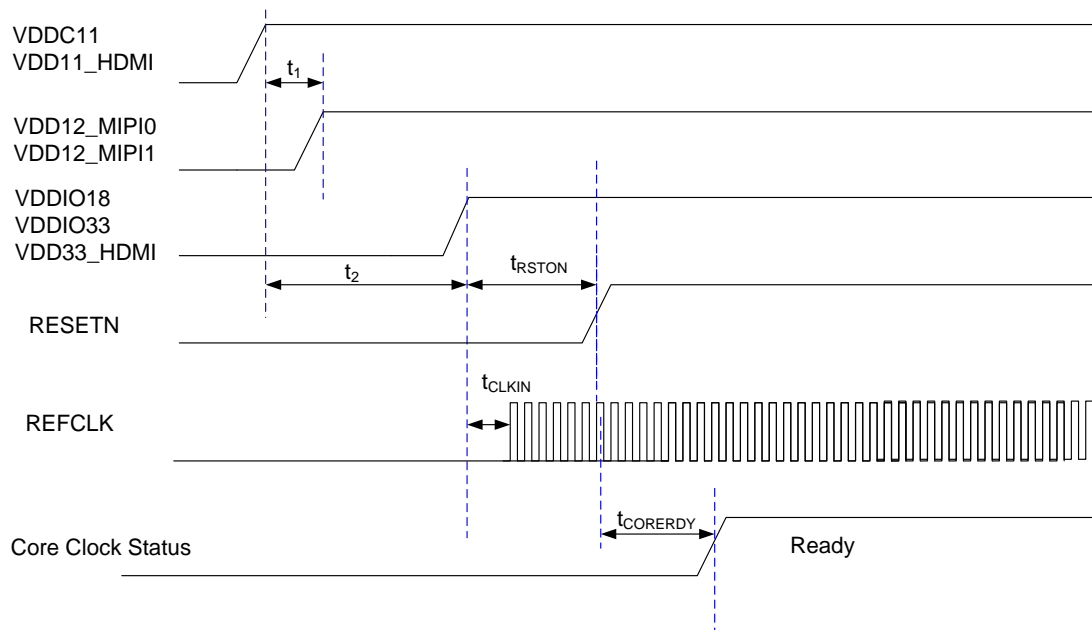

Figure 4.1 Power On Sequence
2. For voltage source, it is desired to turn on core power (1.1V) source first, then Analog PHY and IO (1.8V) power as shown in Figure 4.1.
4. The timing parameters for Figure 4.1 are tabulated in Table 4.3.